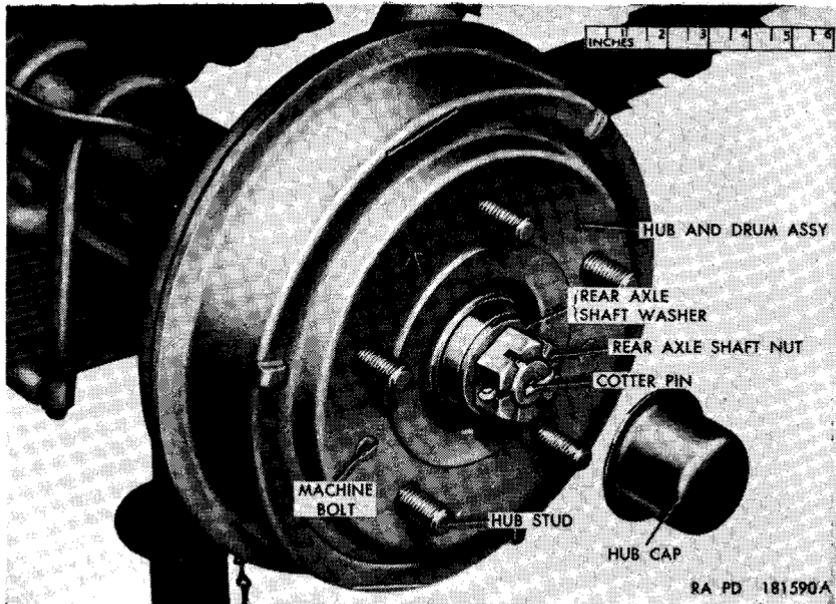
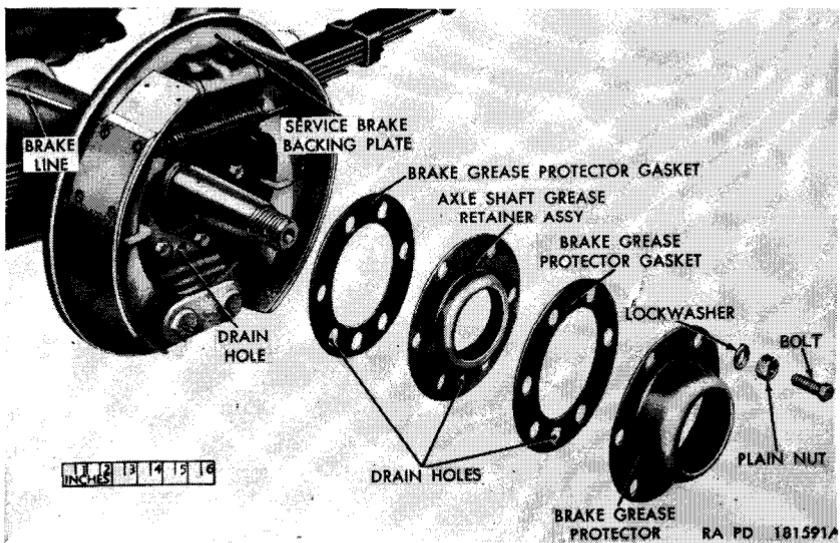

Figure 94. Rear axle assembly—hub cap removed.
Figure 95. Rear axle assembly—partially exploded view.
- (1) The removal procedure is the same for the left or right rear axle shafts.
- (2) Place a jack under the rear axle and raise the vehicle until the wheels are clear of the ground. Place safety stands under both ends of the axle outside the spring U-bolts or block axle with solid blocking.
- (3) Remove wheel (par. 256).
- (4) Pry off hub cap, and remove cotter pin, axle shaft nut, and axle shaft washer (fig. 94).
- (5) Install a wheel puller on three hub studs of the hub and drum assembly (fig. 94) and remove hub and drum assembly and the key.
- (6) Remove the six plain nuts, lockwashers (fig. 95), and bolts securing the brake grease protector, brake grease
- (7) Unscrew the nut securing the brake line (fig. 95) to service brake backing plate and pull line free. Pull the backing plate with attached brake parts off the axle.
- (5) Position the service brake backing plate and attached brake parts on the axle housing flange and aline the drain hole with the drain hole (fig. 95) in the flange.
- (6) Position one brake grease protector gasket, axle shaft grease retainer assembly, second brake grease protector gasket, and the brake grease protector (fig. 95) on the two $\frac{3}{8}$ x 1 $\frac{1}{4}$ bolts protruding through the backing plate, alining the drain holes in the gaskets and protector and the drain passage in the retainer with the drain hole in the backing plate.
- (7) Install the four remaining $\frac{3}{8}$ x 1 $\frac{1}{4}$ bolts through the axle housing flange, and install six $\frac{3}{8}$ -inch lockwashers and $\frac{3}{8}$ -inch plain nuts (fig. 95).
- (8) Position the hub and drum assembly (fig. 94) on the axle shaft and aline the keyway in the hub with the keyway in the axle shaft. Insert the key into the keyways and tap key and hub and drum assembly into position on the axle shaft.
- (9) Install the axle shaft washer and axle shaft nut (fig. 94) on the axle shaft. Tighten the nut and secure in position with a $\frac{1}{8}$ x 1 $\frac{1}{2}$ cotter pin. Position the hub cap (fig. 94) over the axle shaft and tap cap into position on the hub.
- (10) Position the brake line (fig. 95) in its opening in the service brake backing plate and tighten the nut securing the line to the plate.
- (11) Install the wheel (par. 256).
- (12) Remove the safety stands or blocking and lower the wheels to the ground.
- (13) Bleed the brake system (par. 246).
a. *Adjustment.* Place a jack under the axle and raise vehicle until wheels are clear of ground. Test axle shaft end play by grasping wheel and moving in and out. If the bearings are correctly adjusted, end play will be just perceptible. If end play is not correct proceed as shown in (1) through (13) below.
- (1) Unscrew the five nuts and remove the wheel.
- (2) Pry off the hub cap (fig. 94).
- (3) Remove the cotter pin from the axle shaft nut, unscrew the nut, and remove the axle shaft washer (fig. 94).
- (4) Install a puller on three of the hub studs and pull the hub and drum assembly from the axle. Remove the key.
- (5) Unscrew the nut on the end of the brake line from the wheel cylinder. Remove six nuts and lockwashers from the bolts and remove brake grease protector, brake grease protector gasket, axle shaft grease retainer assembly, brake grease protector gasket, and service brake backing plate (fig. 95).
- (8) Install the service brake backing plate, brake grease protector gasket, axle shaft grease retainer assembly, brake grease protector gasket, and brake grease protector (fig. 95) in the order named and with drain holes at the bottom and install the six lockwashers and nuts on the bolts.
- (9) Install the key in the axle shaft, and put the hub and drum assembly onto the shaft. Install the axle shaft washer, screw on the axle shaft nut, and install the cotter pin (fig. 94).
- (10) Push the hub cap into place.
- (11) Position the wheel on the hub studs and secure with five nuts.
- (12) Position the brake line in the wheel cylinder and tighten the nut.
spring U-bolts or block axle with solid blocking. Remove the wheel (par. 256). Pry off the hub cap and remove the cotter pin, axle shaft nut, and axle shaft washer (fig. 94). Install a wheel puller on three hub studs and remove the hub and drum assembly. Remove the key. Remove the three bolts (fig. 94) securing the brake drum to the hub and pull the drum off the hub. If it is necessary to replace any hub studs (fig. 94), drive them out of the hub.
Position the brake drum on the hub, alining the mounting holes in the drum with those in the hub. Secure the drum to the hub with three $\frac{1}{4}$ x $\frac{5}{8}$ flat-head bolts (fig. 94). Position the hub and drum assembly on the axle shaft, alining the keyway in the hub with the keyway in the axle shaft. Insert the key into the keyways and tap the hub and drum assembly and key into position. Install the axle shaft washer and axle shaft nut. Tighten nut and secure in position with a $\frac{1}{8}$ x $1\frac{1}{2}$ cotter pin (fig. 94). Position hub cap (fig. 94) over axle shaft and tap onto hub. Install the wheel (par. 256). Remove safety stands or blocking and lower vehicle to ground.
a. Removal. Remove wheel (par. 256). Pry off the hub cap and remove the cotter pin, axle shaft nut, and axle shaft washer (fig. 94). Remove the three bolts (fig. 94) securing the brake drum to the hub and pull the drum off the hub.